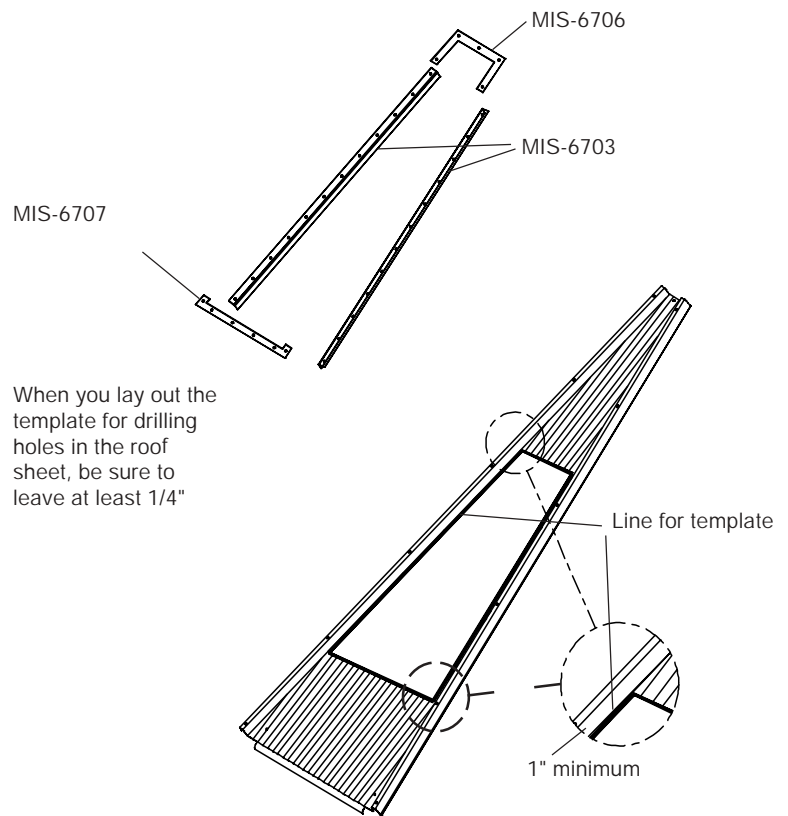

Figure 5: 24" roof fan template placement on the roof sheet.
1. Assemble the roof sheet mounting template as shown in figure 5.